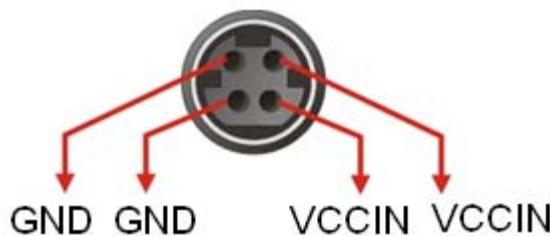

Figure 3-28: 4-pin Power DIN Connection
**CN Pinouts:** See Figure 3-28